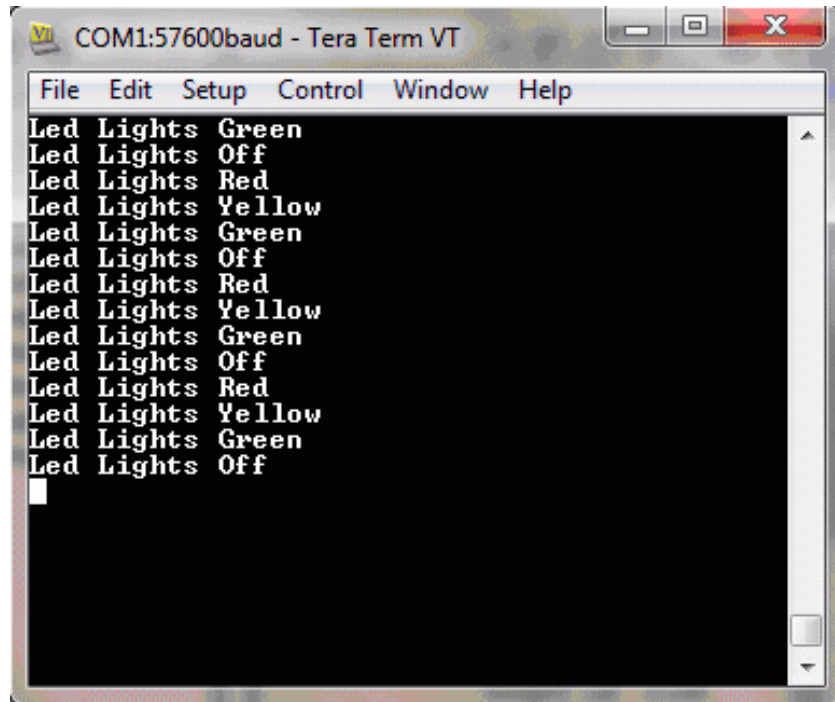

Figure 11. Console Output Using Tera Term (Windows 7)
5. In HyperTerminal, click the **Call** button to connect to the F6482 Series Development Board. When connected, you should be able to see the demonstration program menu shown in Figure 11.